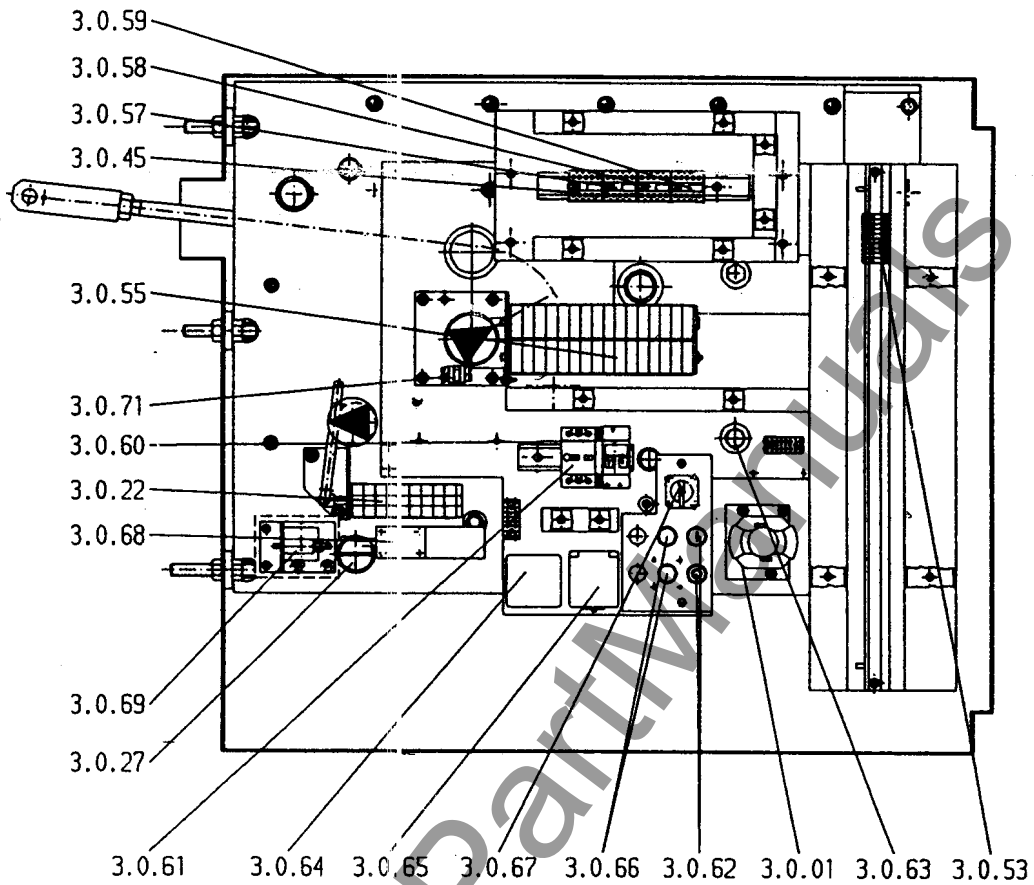

Fig. B5: Accessory equipment - Front view
c) Motor (3.0.01) (fig. B5)
e) Motor limit switch (3.0.22) (fig. B5)
f) Auxiliary switch (3.0.55) (fig. B5)
g) Operation counter (3.0.71) (fig. B5)